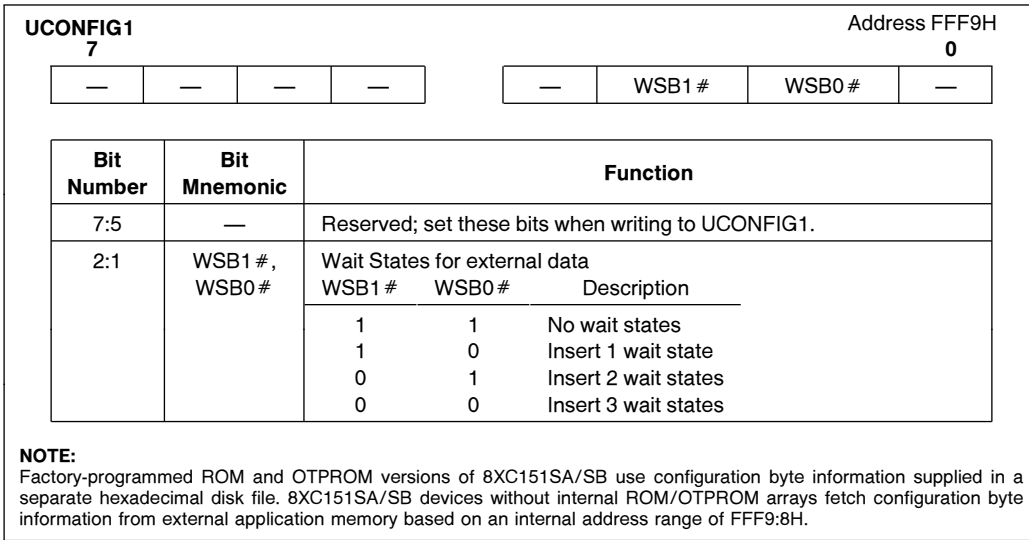

Figure 20. Configuration Byte 1
1. The PROG # pulse waveform is shown in Figure 20.